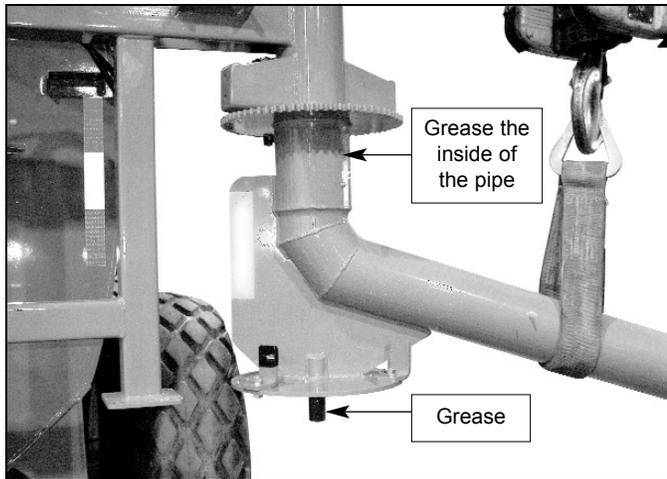

Fig. 5
- 2.2. Using a winch, install and support the side arms so that the gear plate is all the way up and aligned with the motor gear - *fig. 5*.